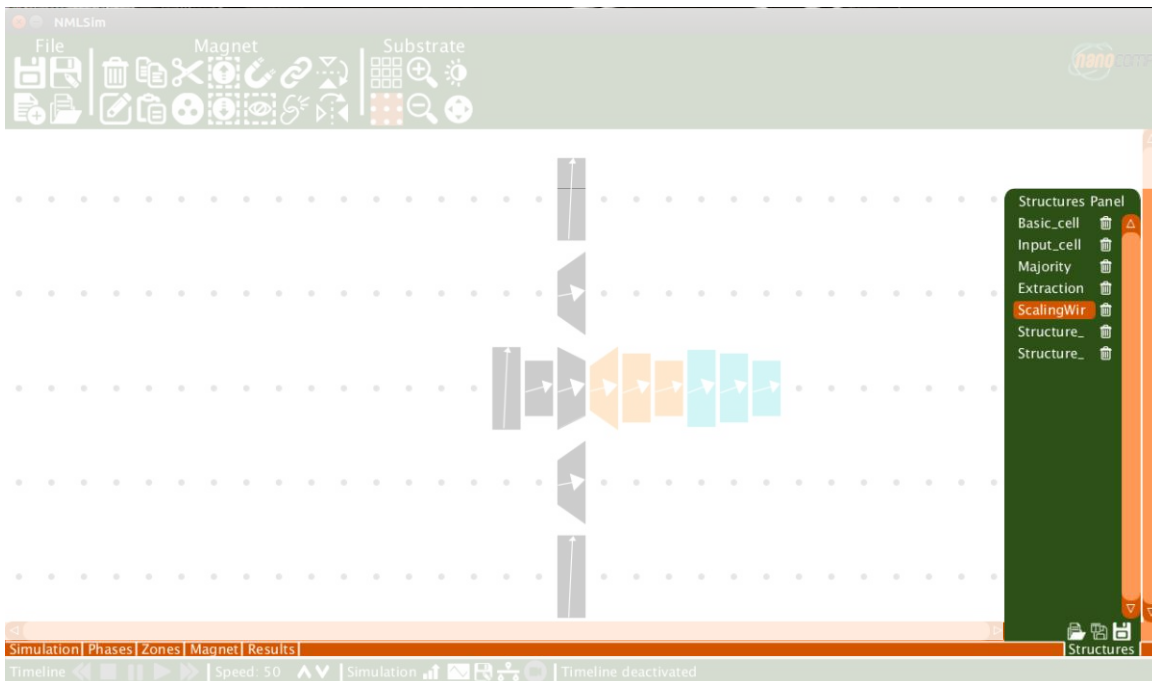

Figure 13. Structure panel in editing mode, highlighted.
- **Bullet:** toggles the visibility of the bullets (Figure 13).
The last button is the edit button, which switches the panel to the edit mode (Figure 13), adding a delete button for each structure. By clicking a structure during edit mode, the button will be selected, allowing the user to redefine the name of the structures. The edit button is replaced with the save button, which commits the changes made in the structures panel. Note that if you leave a structure with no name, a random name will be assigned to it.